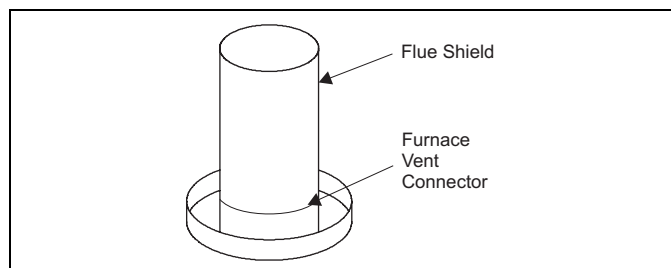

FIGURE 28: Flue Shield Installation
1. Install Flue Shield inside Vent Connector. Push Flue Shield down until in contact with the built-in stop inside the Vent Connector. See Figures 28 and 29.